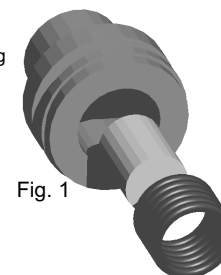

Fig. 1
2. Place the six delay O-rings (small, 3/32" thick) around the delay element. (Figs 1 and 2).